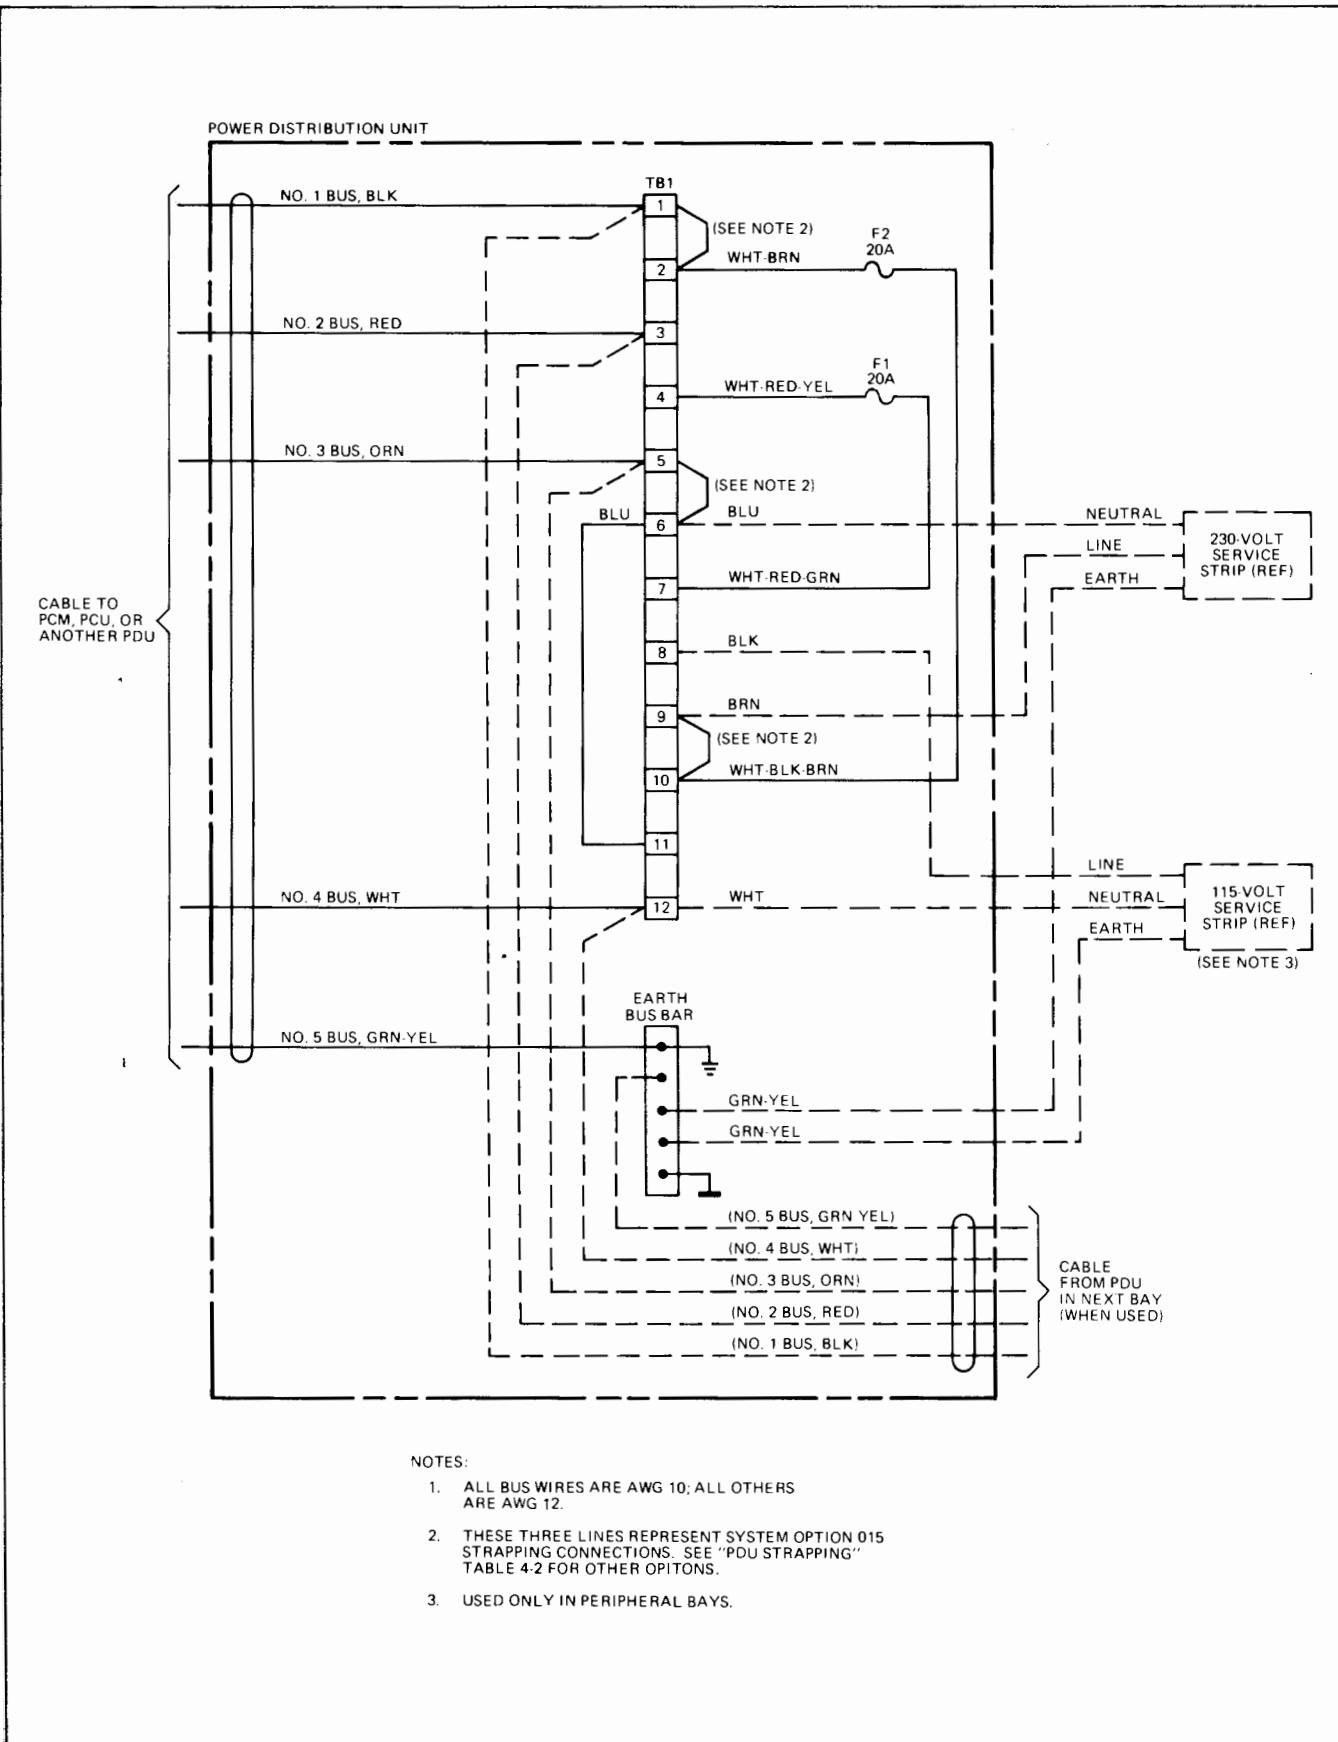

Figure 7. Power Distribution Unit Wiring Diagram
- Connect adjacent PDU's in accordance with figure 7.